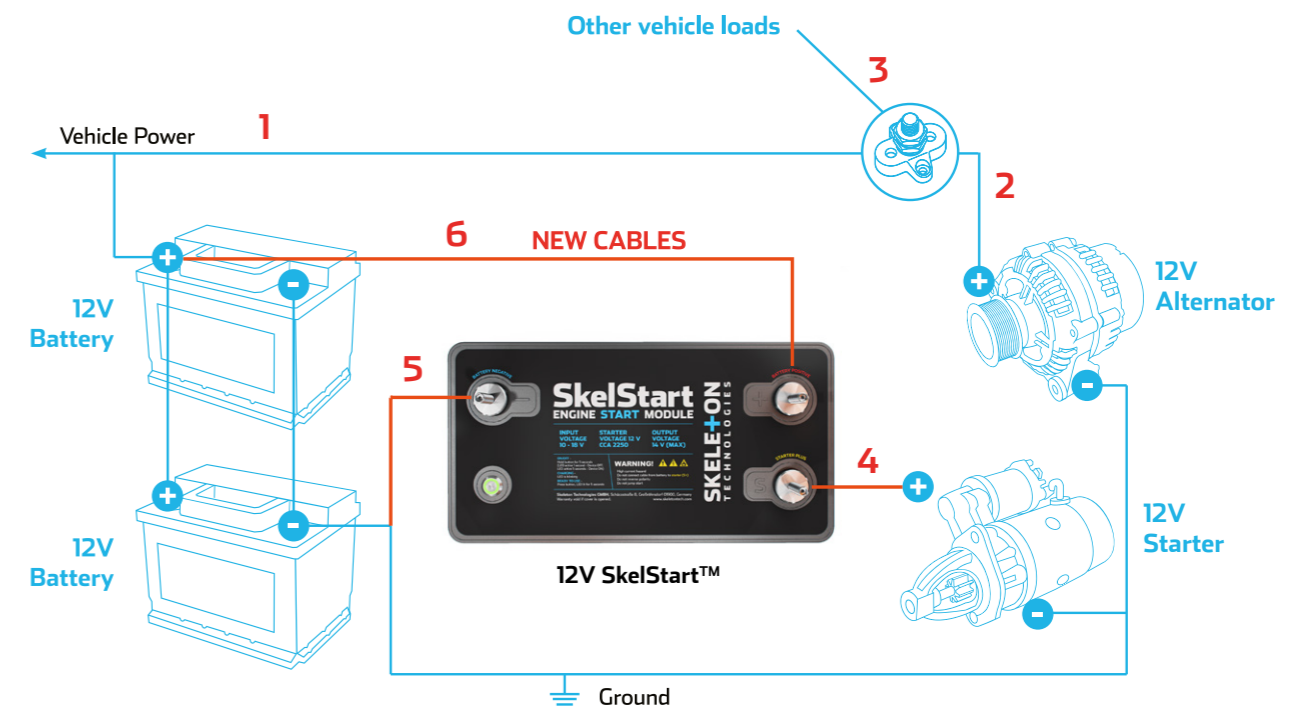

Fig 3. 12V system after SkelStart™ installation
3. The cables removed from the positive starter solenoid terminal should be connected using a terminal block or a nut-bolt connection (use spring washer or locknut). This connection will then have to be isolated from the rest of the vehicle and mounted securely. This can be achieved by bundling the cables together using cable ties and covering the connection with heat shrink (Fig. 3. cables 1,2,3). Note: the connection must be fully isolated from the mass of the truck and should be secured in such a way that vibration, abrasion or corrosion cannot cause a short circuit.
4. Construct a new cable to connect the SkelStart™ S+ to the positive terminal of the Starter Solenoid (Fig. 3 cable 4). The recommended cable size - based on the length of the total cable - can be found in the above table.
5. Construct an additional new cable to connect the SkelStart™ B+ to the 12 V line on the batteries (Fig. 3 cable 6). The cable size should be at least 25 mm² for lengths of <5 m and 35 mm² when the cable length exceeds 5 m.
6. Finally, a new cable is required for connecting the SkelStart™ B- terminal with battery "-" terminal or to the vehicle mass (Fig. 3 cable 5). This cable should be sized according to the above table.